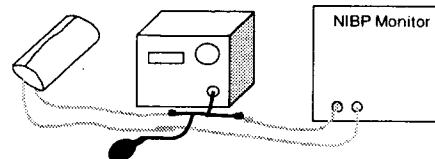

Fig. 2
7. **For static calibration, over pressure testing, and leak testing** connect the SimCube and a manual pump bulb in line with the monitor's cuff and hose as shown in Fig. 2. All SimCube models include a manometer for performing static calibration; some models include a Peak Detect mode for performing over pressure testing and some models include a Leak Test mode for performing leak tests.